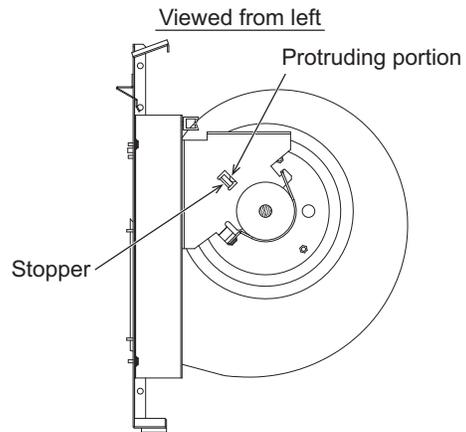

Fig.7
- (2) Fix the motor in place so that the heat radiating fins on the motor and the stopper of the motor leg are positioned as shown in Fig. 7.